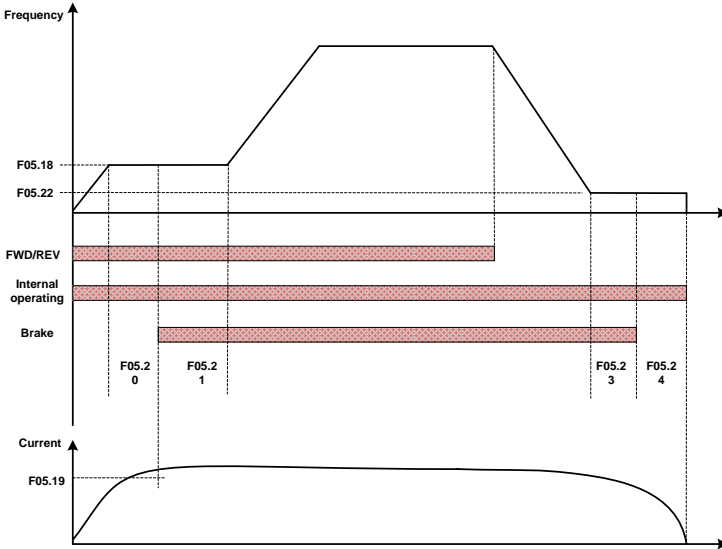

Fig 6-15 Brake control logic scheme
See Figure 6-15 (1) and Figure 6-15 (2) for input/output bias of Table 6-3(1) and Table 6-3(2) respectively.